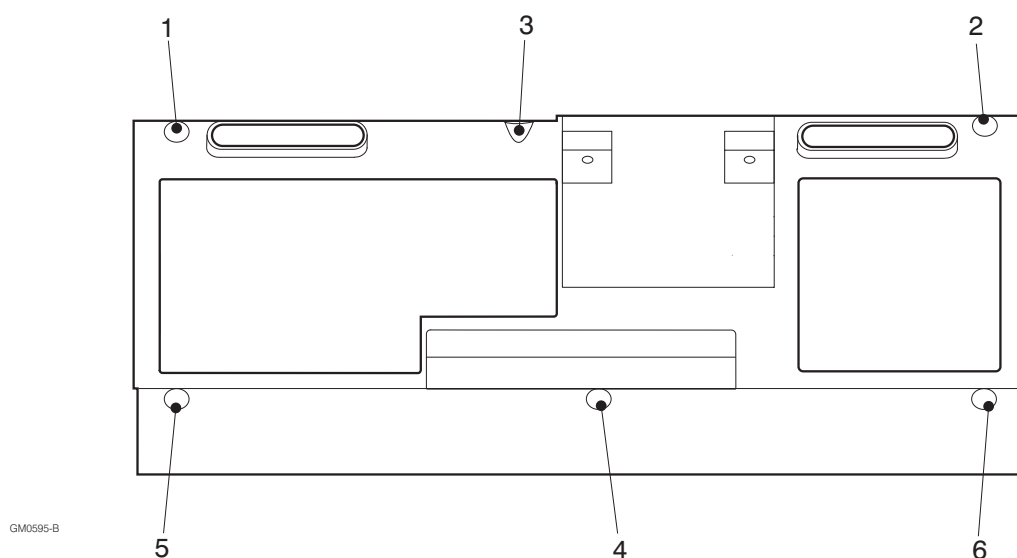

Figure 2.1 Case fixing screw tightening order
Being careful not to trap any leads, assemble the casing by reversing steps (2) and (3) detailed above. Ensure that the case halves have 'snapped' together and that the front and rear mating edges are equal and parallel. Tighten the screws to a torque of between 70 and 75 cNm in the order shown in the *Figure 2.1*.